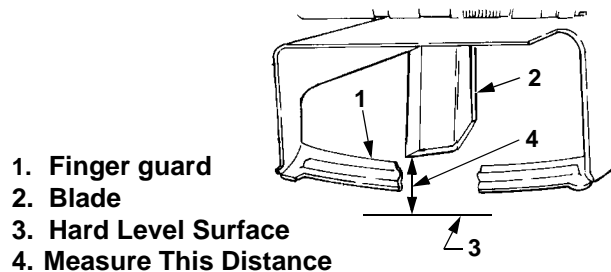

Figure 19
4. Referring to Figure 19, measure and record the distance from the level surface to the outer-most cutting edge of the right blade. Repeat this step for the left blade. If the two blade heights are not within 1/16 inch, the deck must be leveled. Note whether the left blade had the *larger or smaller* distance between the cutting edge and level surface. If the two blade heights are within 1/16 inch, proceed to **FRONT TO BACK LEVELING**.